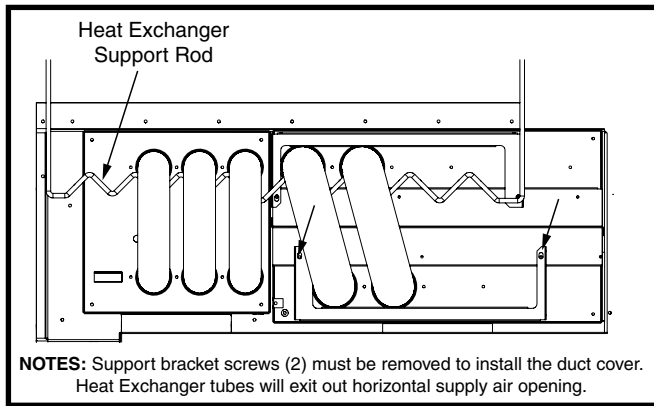

Figure 13. Support Rod Locations
16. Remove 2 nuts securing the heat exchanger rod. **NOTE:** Support rod nuts (2) can be accessed through blower compartment. Heat Exchanger tubes will exit out horizontal supply air opening. See Figure 13 \(page 19\).